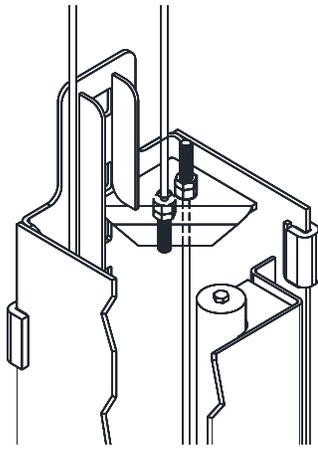

Fig. 11a – Cable Assembly
- 26) Mount synchronizer cables to carriages as shown in Fig. 11a & 11b. If installing at 114-1/2" inside of columns refer to Fig. C of the Width Configuration 114-1/2" Supplement. (For using existing anchors to match the prior model CL10).